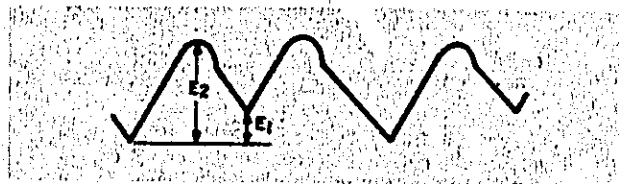

Figure 5-12. Ripple Imbalance Waveform
- Adjust the decade resistance for a ripple imbalance (E1/E2) of less than 0.5 as shown in Figure 5-12.